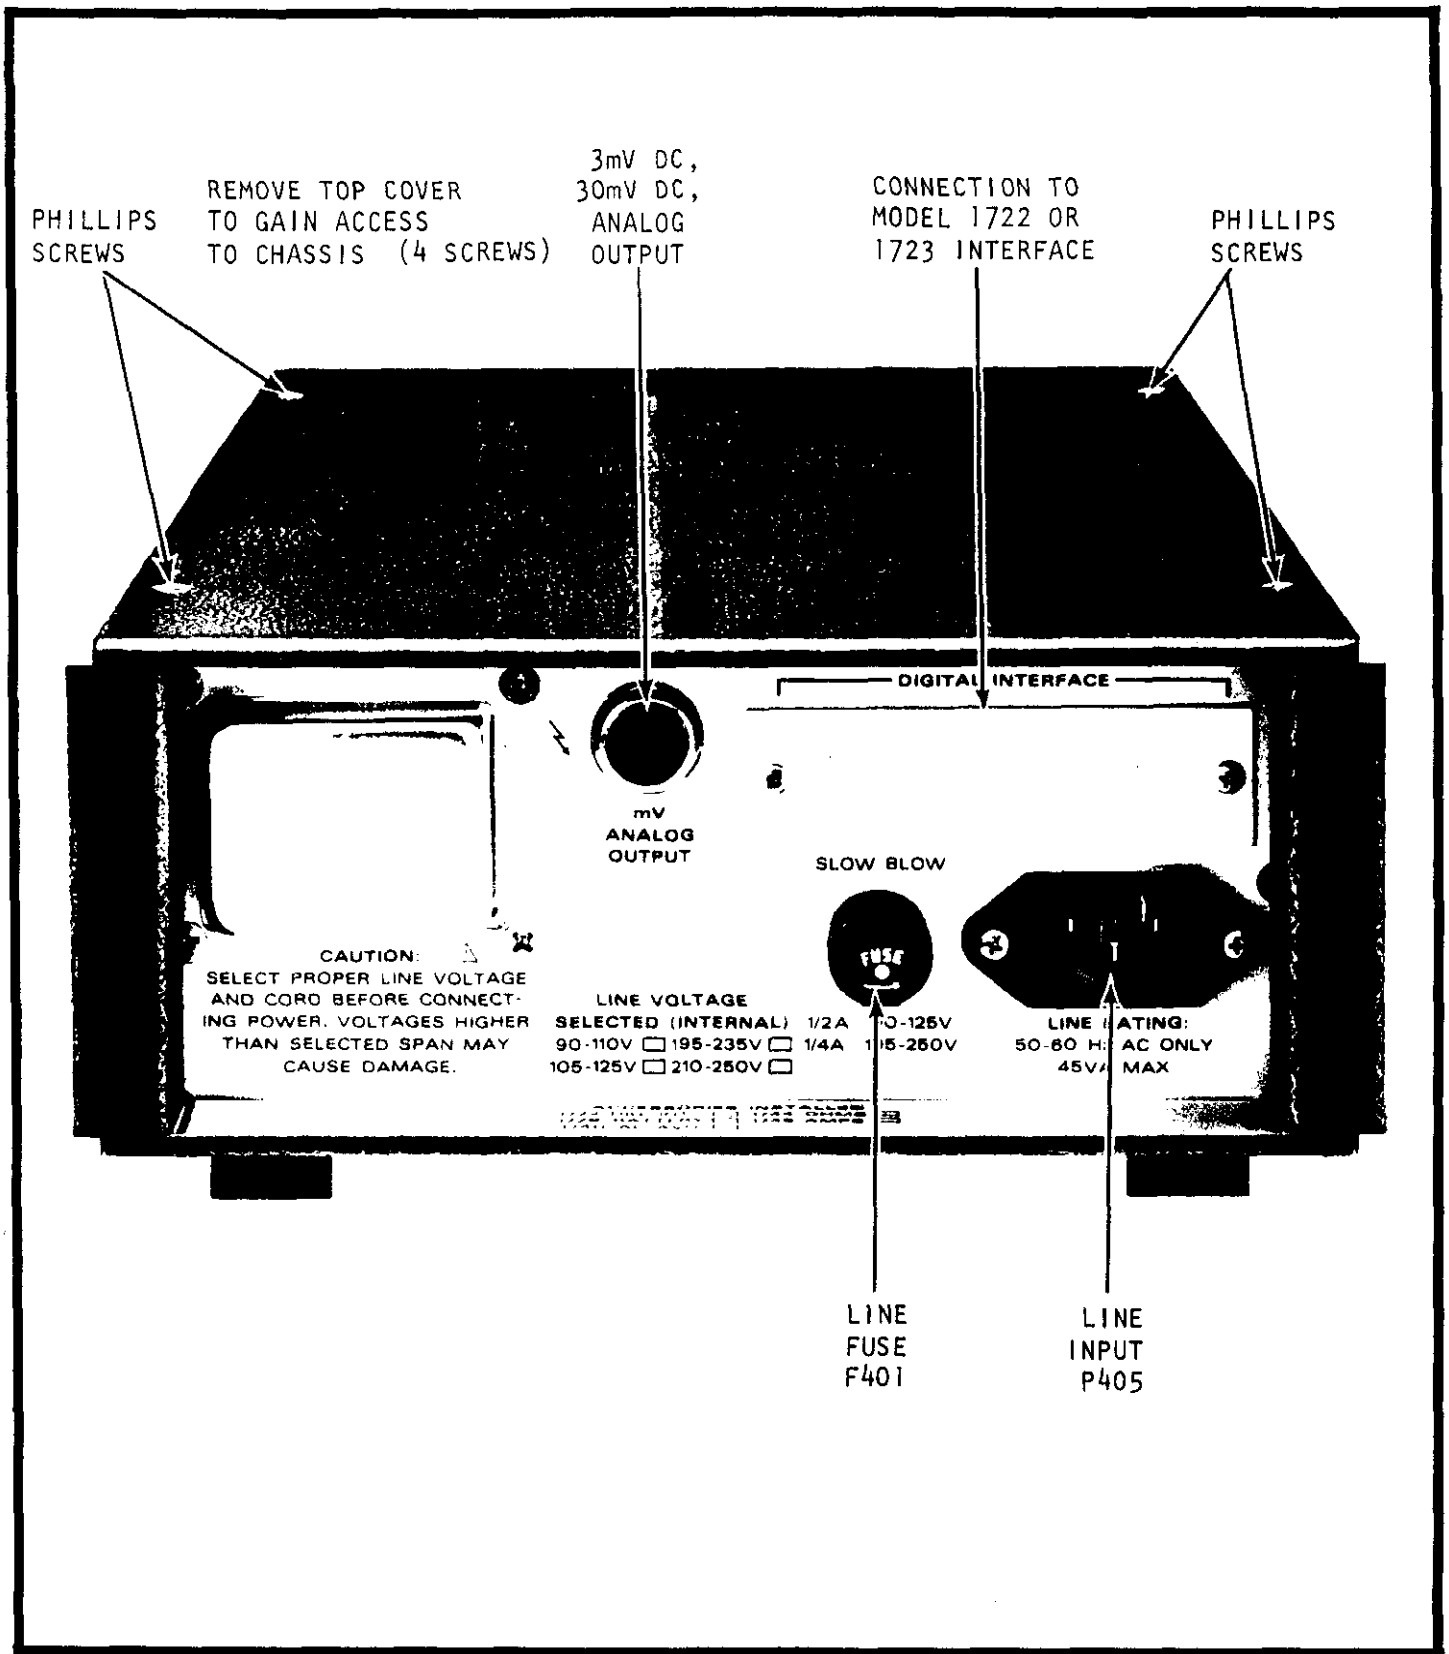
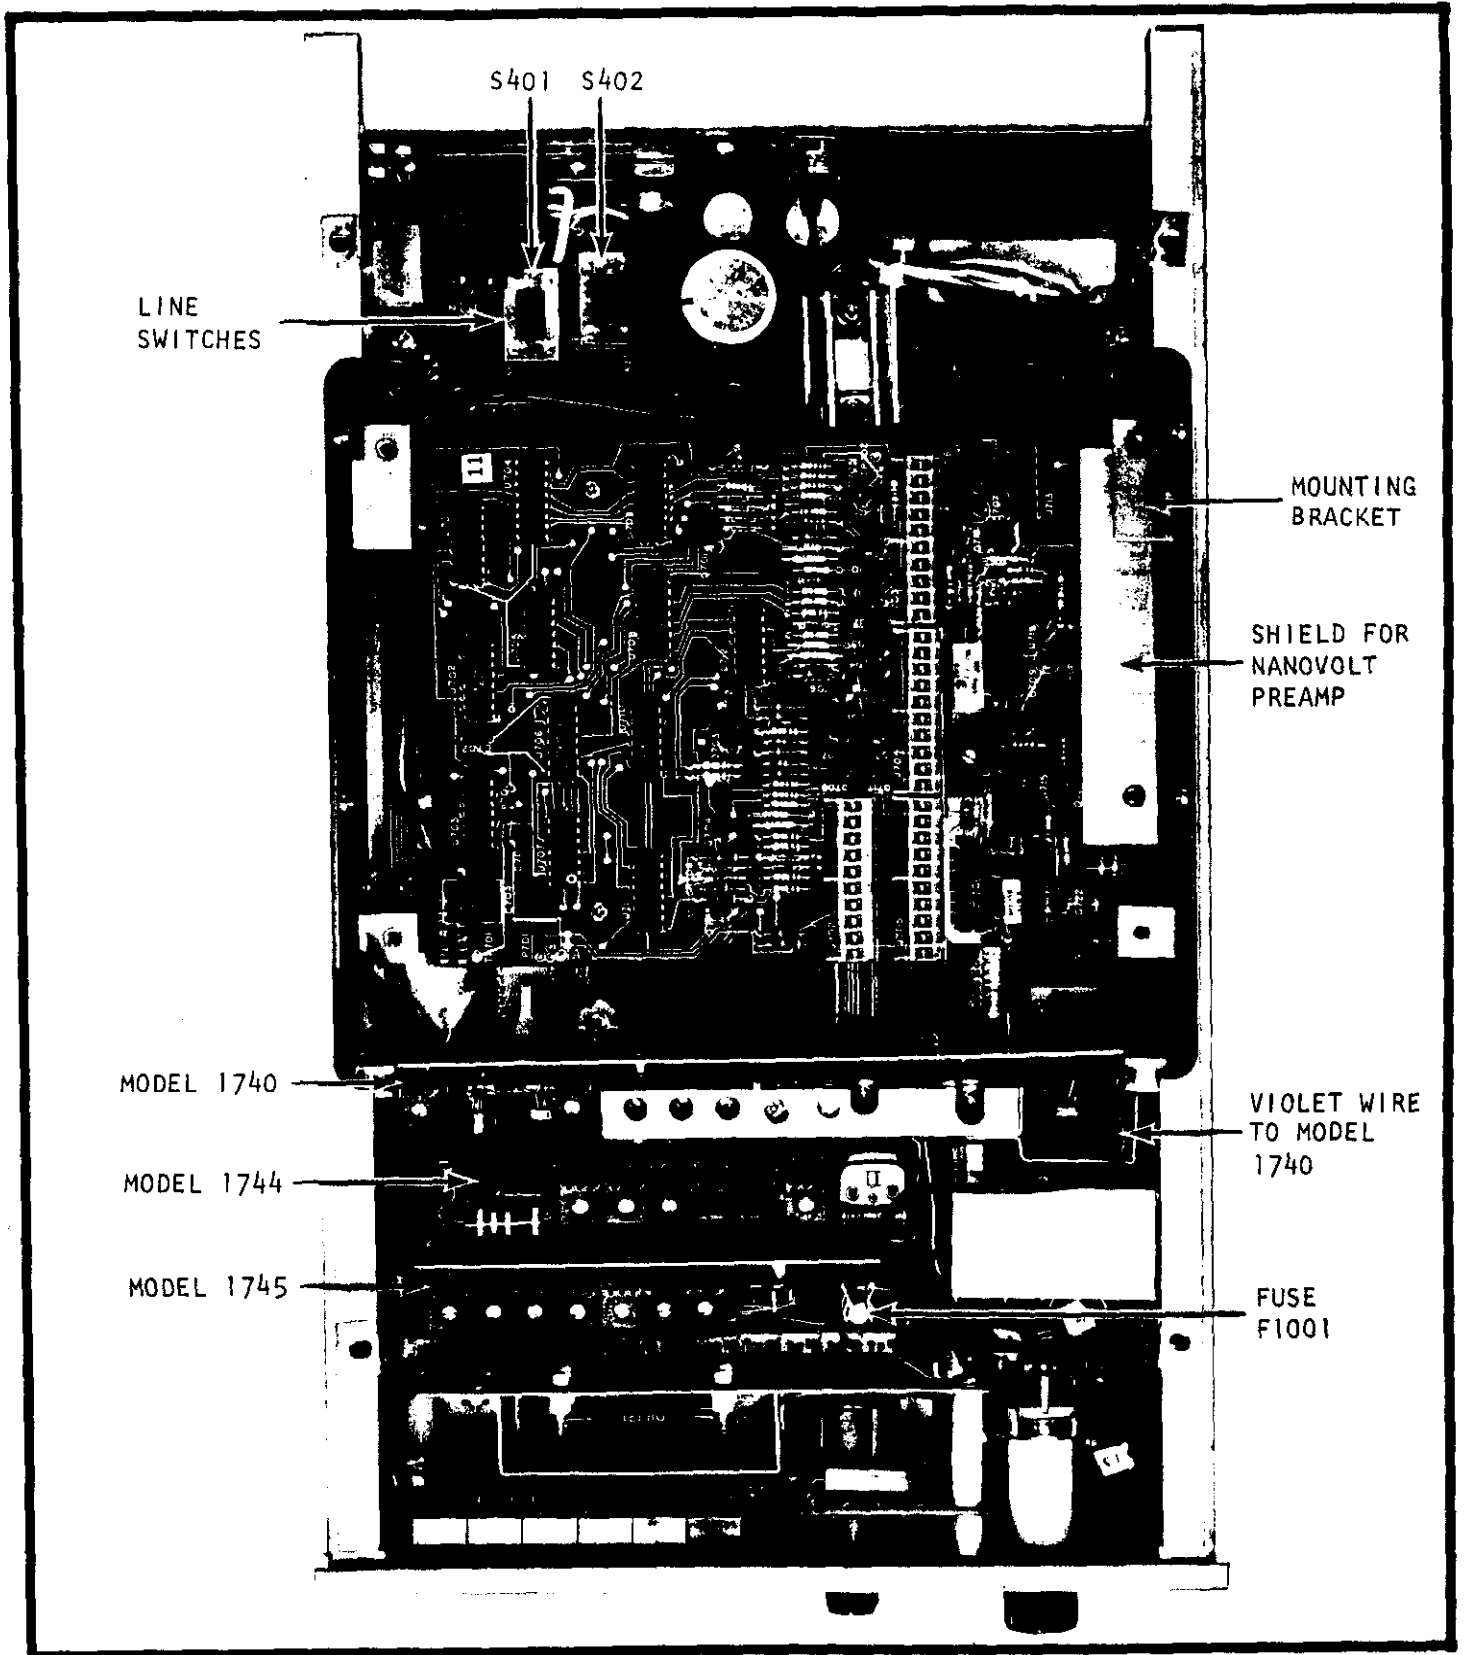

FIGURE 2. Rear Panel Connections.
FIGURE 3. View of Chassis With Cover Removed.
a. How to Set the Internal Line Voltage Switches (S401 and S402). The Model 174 has two slide switches located on the main circuit board as shown in Figure 3. The top cover must be removed to gain access to the circuit board as shown in Figure 2.
b. Line Fuse Requirement. The Model 174 uses a single line fuse to protect the line-operated power supply. The fuse is a 3 AB, slow-blow type. Verify that the fuse rating is 1/2A for 90-125V range, 1/4A for 190-250V range. The line fuse is located on the rear panel as shown in Figure 2.